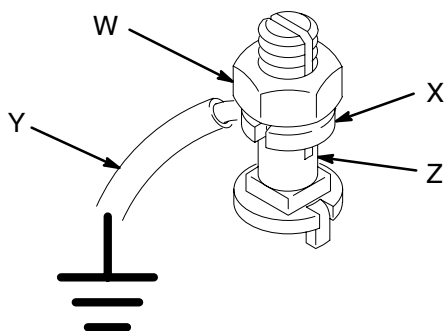

Fig. 1
1. *Pump:* use a ground wire and clamp. See Fig. 1. Loosen the grounding lug locknut (W) and washer (X). Insert one end of a 1.5 mm² (12 ga) minimum ground wire (Y) into the slot in lug (Z) and tighten the locknut securely. Connect the other end of the wire to a true earth ground. See the **Accessories** section to order a ground wire and clamp.